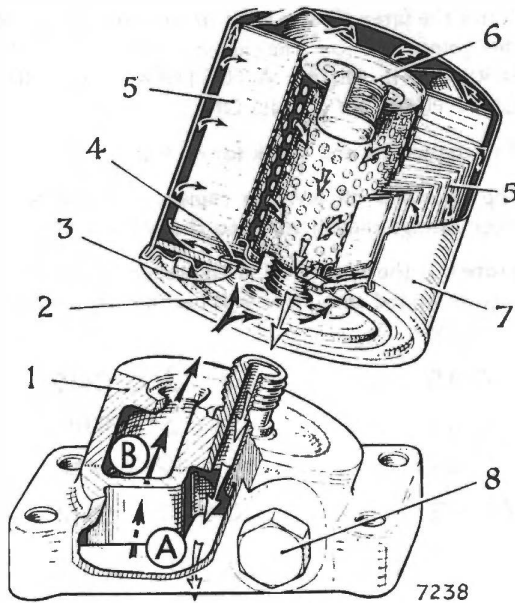

Fig. 52. Throw away type full flow filter—internal construction
**FULL FLOW OIL FILTER—Throw away type (See Fig. 52)**
Oil from the engine oil pump enters compartment "B" in the filter adaptor casting (1) and passes through eight port holes into the filter body. All oil entering the filter passes through the filter cartridge from the outside to the centre as shown in Fig. 52 and thence through the screwed spigot to compartment "A" in the adaptor casting. From here it enters the engine main oil gallery.
A by-pass valve (6) is fitted inside the throw away filter unit and forms part of this assembly as shown in Fig. 52.
**Changing throw away filter unit. (See Fig. 52)**